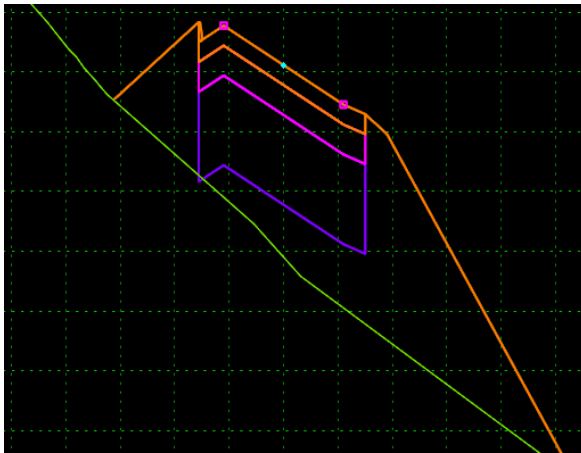
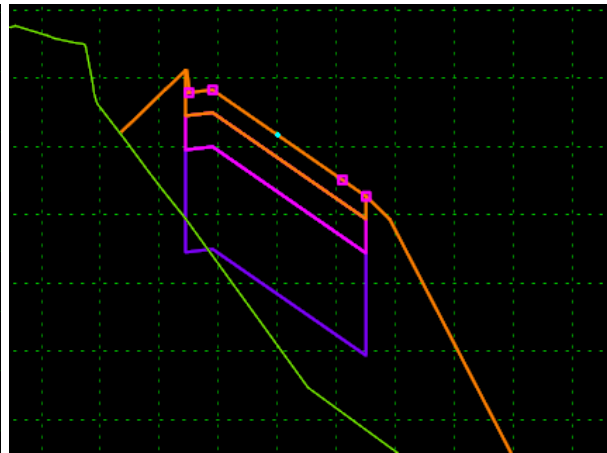

Figure 8-5 No Roll Over Defined
Figure 8-6 Using Roll Over Locks
- N. Using the Superelevation Display mode of the Roadway Modeler, view cross sections along the corridor to verify that the transverse slope is working according to the intended design. Figure 8-5 and Figure 8-6 display designs with and without roll over locks in Normal view.